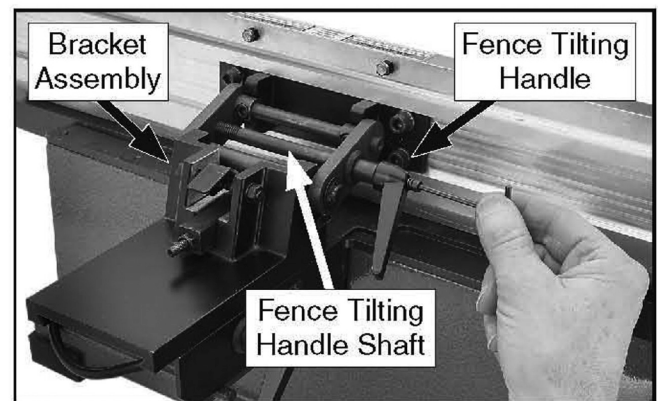

Figure 16. Installing the fence tilting handle.
7. Install the fence tilting handle by threading the handle shaft into the bracket assembly, as shown in **Figure 16**.